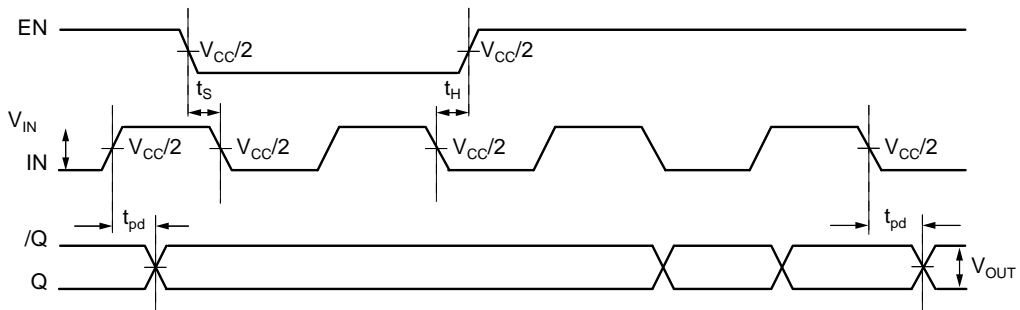

Figure 1a. Timing Diagram (EN, IN1, IN2)
- See "Timing Diagrams," Figure 1a.